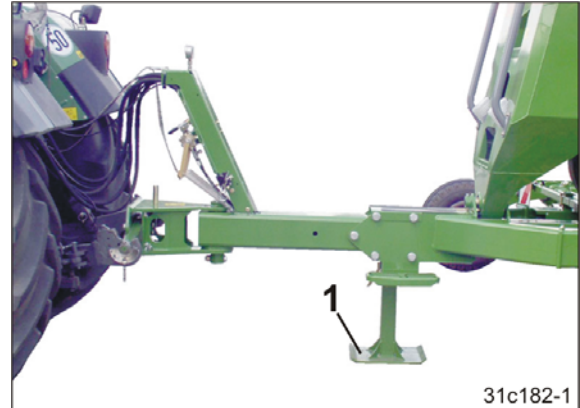

Fig. 159
2. Support the implement on the stand (Fig. 159/1).